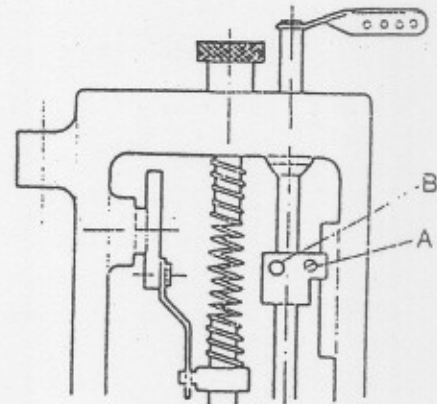

Fig 9
1. Rotating the pulley and raise the needle bar to upper end and then loosen the needle bar screw A in Fig. 9.
2. When the needle bar is put down, tighten the needle bar screw A in Fig. 9. moving the needle holder so that the needle can enter the center of needle hole.